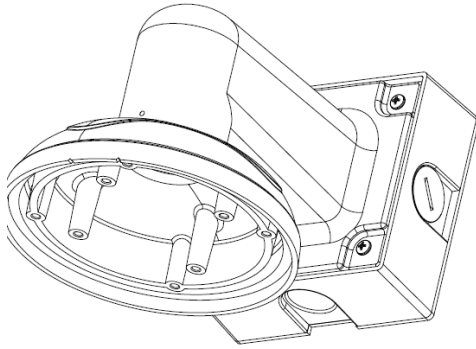

Figure 1: Attach wall mount cap to the wall mount
2. Connect wall mount cap and wall mount as shown in Figure 1.